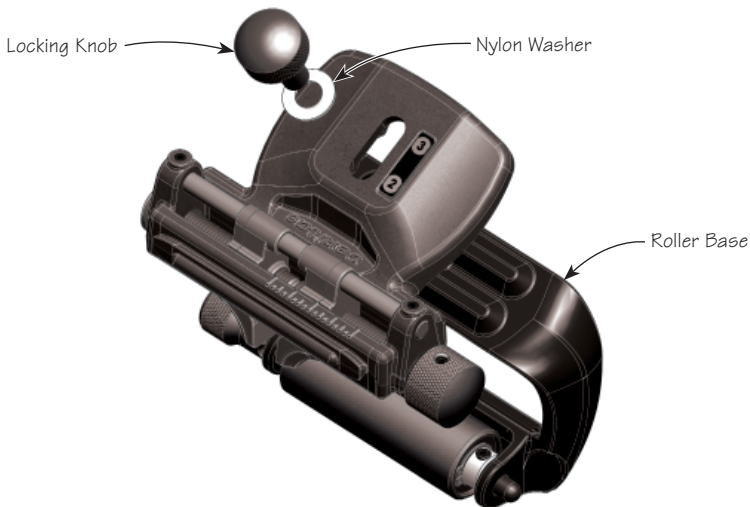

Figure 2: Mounting the narrow-blade carrier onto the straight roller base.
To install the narrow-blade carrier, unfasten the standard blade carrier from the straight roller base. Position the narrow-blade carrier on the roller base and secure it to the roller base with the locking knob and washer, as shown in **Figure 2**, aligning it to position ② (yellow) or ③ (green) as necessary for the desired bevel angle. (Position ① is not available in the chisel honing configuration.) In general, position ② (yellow) will accommodate the typical range of chisel bevels.